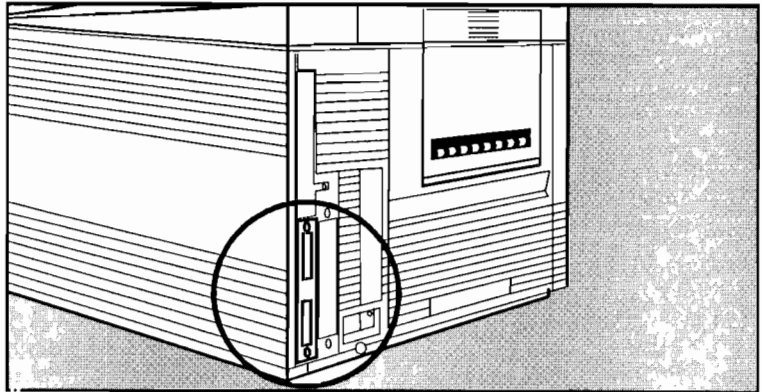

Figure 3-14. Locating the Accessory Slot
5. Locate the accessory slot at the rear of the printer on the lower, left-hand side. See Figure 3-14.